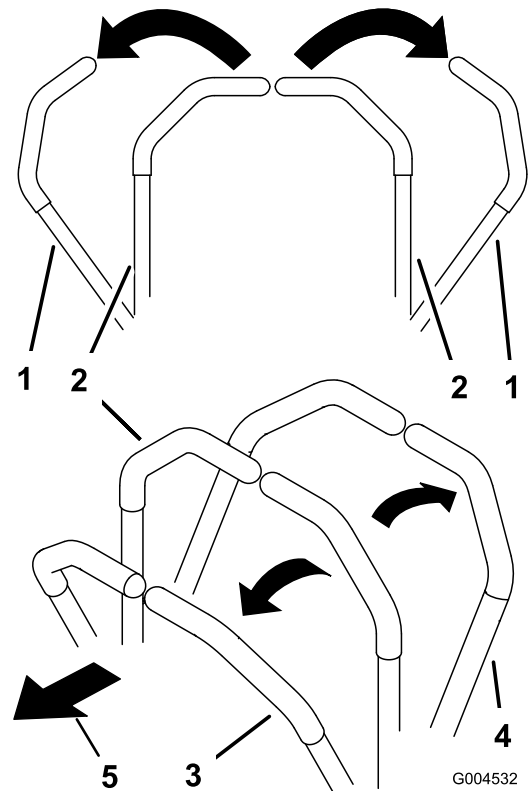

Figure 16
2. To go forward, slowly push the motion control levers forward (Figure 16).
To go straight, apply equal pressure to both motion control levers (Figure 16).
To turn, release pressure on the motion control lever toward the direction you want to turn (Figure 16).